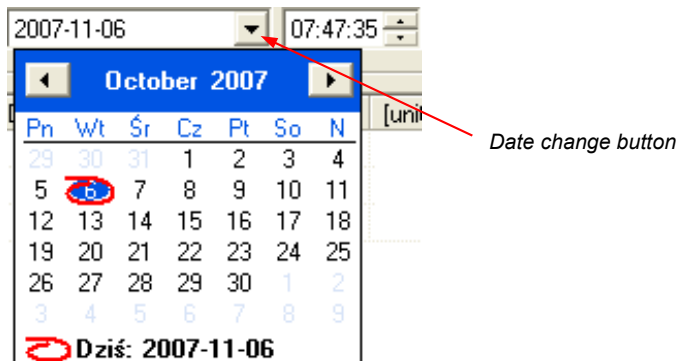

Figure 4.5. Changing the “From date”
- 1) In order to change “From date”, click onto the arrow on right side of the date (Figure 4.5). The calendar window will open: